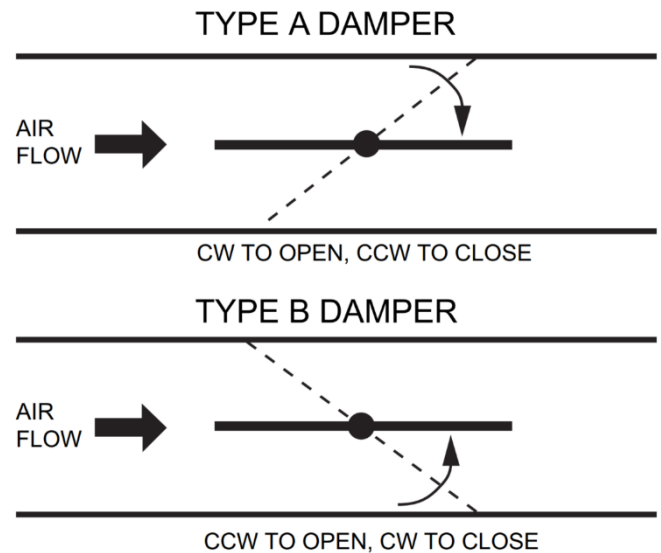
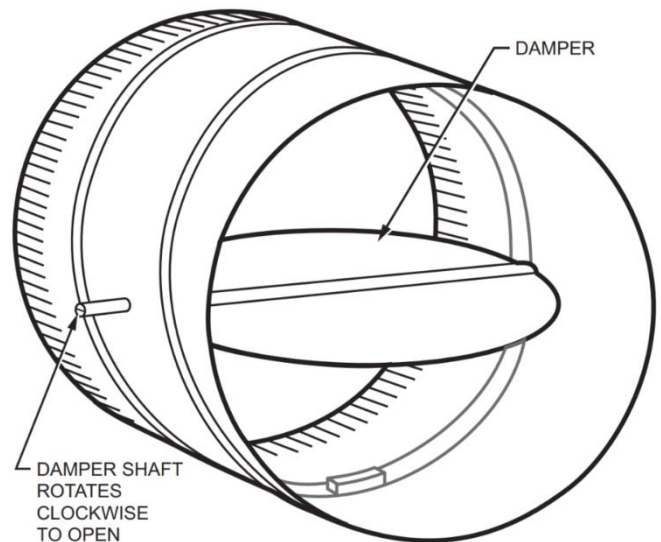

Fig. 5. Determining the rotation direction (CW or CCW)
Fig. 6. Damper with 90 degree CW rotation to open
3. Determine the direction in which the damper shaft rotates to open the damper (CW or CCW) (see Fig. 5). Typically, there is an etched line on the end of the damper shaft that indicates the position of the damper. In Fig. 6, the indicator shows the damper open in a CW direction.
4. Determine the damper full opening angle (45, 60, or 90 degrees). In Fig. 6, the damper is open to its full open position of 90 degrees.